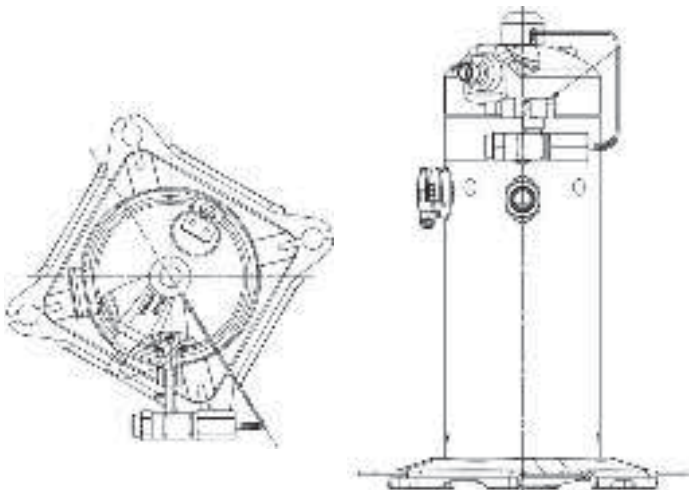

Figure 2. DTC valve installation
- a. DTC valve should bottom out in injection fitting. The DTC valve should be installed in a horizontal orientation. Please see the assembly in Figure 2.